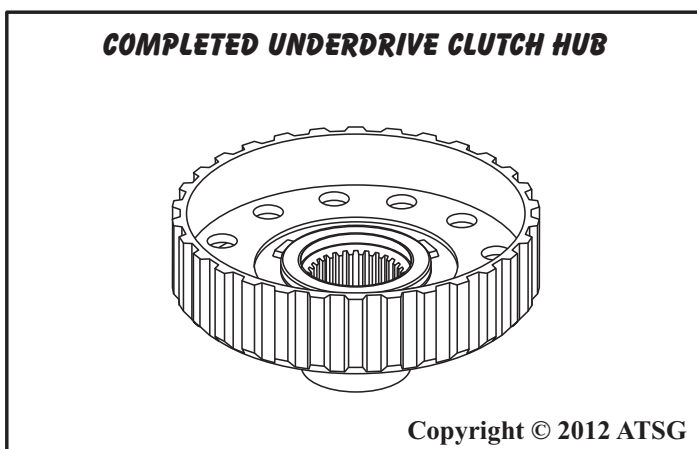

Figure 157
3. Set the completed underdrive clutch hub aside for the final assembly process, as shown in Figure 157.